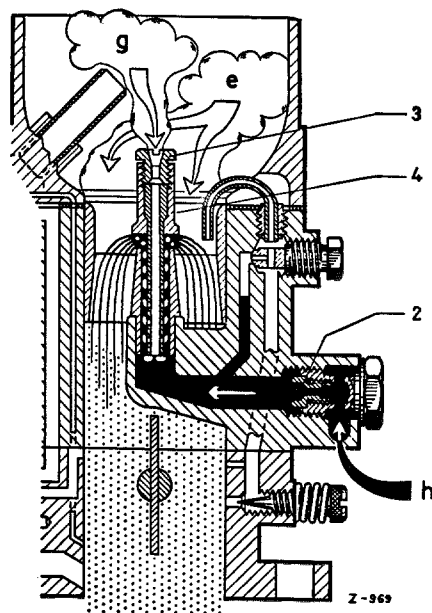

Fig. 07-0/18
In its standard form the double downdraft carburetor has a float and a float needle valve in the carburetor cover. The float chamber is ventilated through the tube (23) in the carburetor cover. For each of the carburetor suction canals there is an air horn, a main jet and a mixing tube holder with mixing tube and air correction jet (see Fig. 07-0/11).
When the vacuum effect increases at higher engine speeds the fuel level in the mixing tube holder decreases and compensating air enters through the air correction jet (3) and passes through the small bores in the mixing tubes and combines with the fuel flowing through the main jet to form a mixture. With increasing engine speed the proportion of air in the mixture increases so that overenrichment of the fuel-air mixture is prevented and the engine receives a more or less uniform mixture over the whole speed range (Fig. 07-0/18).